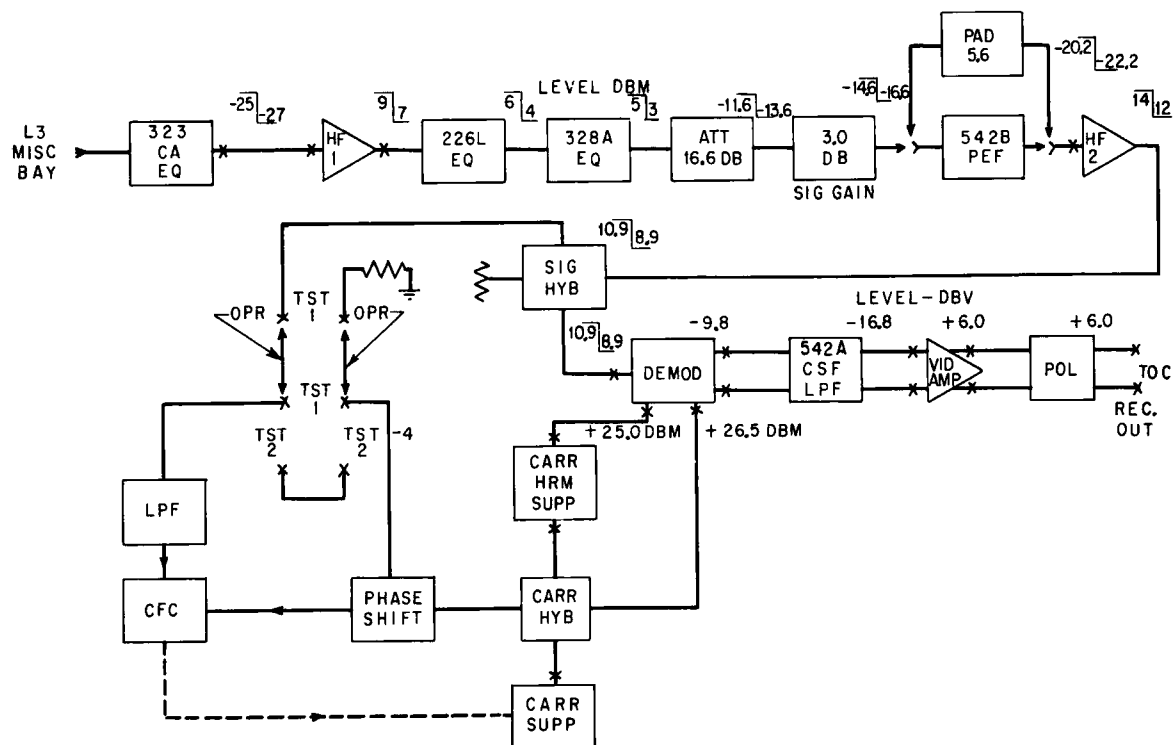

Fig. 16 — Block Diagram of R3 Receiving Terminal
24.01 If the gain measurement specified in Part 12 is out of limits, measurements should be made to determine the reason. Normal operating levels are shown in Fig. 16 for the R3 receiving terminal. Signal amplitudes between the demodulator output and the terminal output are given in terms of dbv. Signal amplitudes preceding the demodulator are described in terms of two numbers, as for example -25 -27 at the receiver input. This means that the nominal value of the unmodulated carrier at this point is -25 dbm and that the nominal power for a full amplitude sideband signal is
- (2) Set 56A oscillator to 4 mc and adjust for 0 dbm output on the 73A power meter. Change ATT C to 40 db.
- (3) Measure carrier powers by removing the patch plugs on the branching and control panel and patching the 37B TMS to the upper left-hand jack of TST 1 jack (shown in Fig. 16) on branching and control panel.